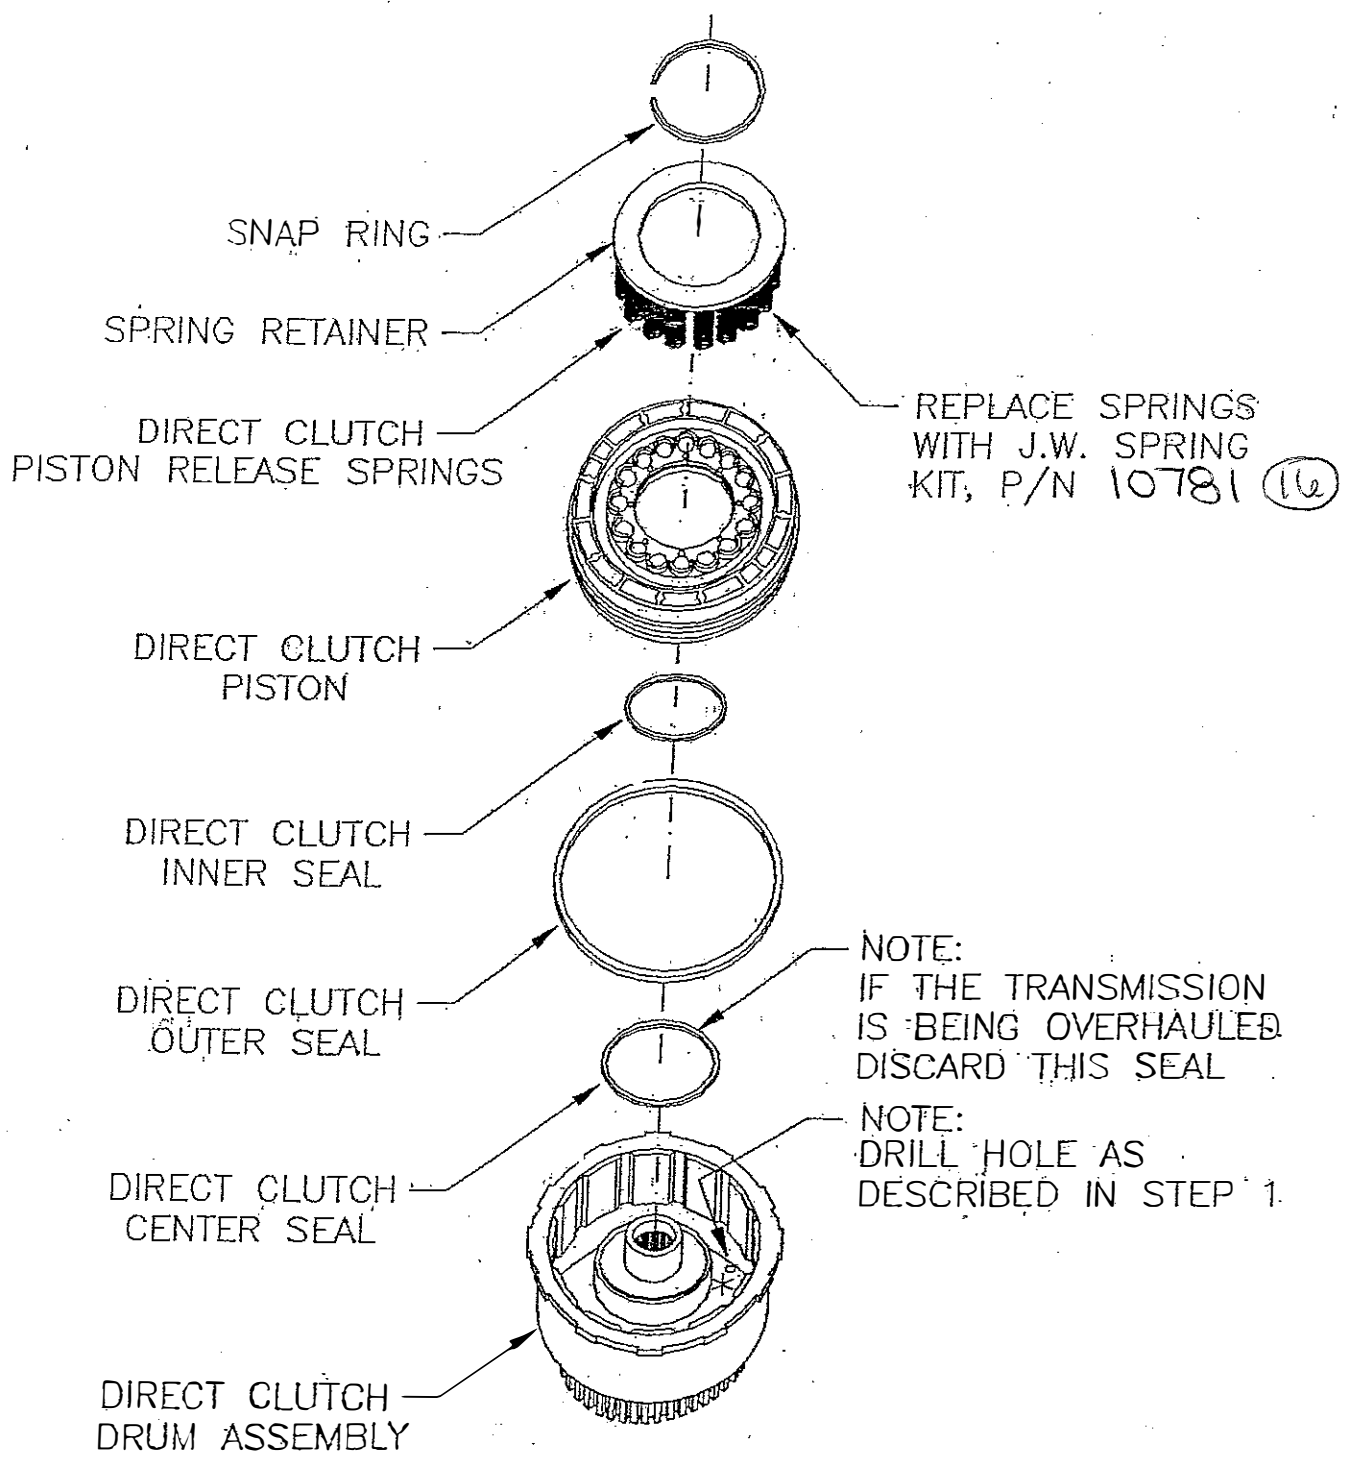

FIGURE 1
STEP 1: Disassemble the transmission enough to remove the direct drum. Refer to Fig. 1, Pg. 2. Disassemble the drum including the piston. Drill a 3/32 (.093) hole in the drum (area behind piston) from the inside to outside and locate it as close to the outside corner as possible. Do not drill at or above the corner. The hole may be drilled at a slight angle to allow more room while drilling. Deburr the hole on both sides, reassemble the drum. When reinstalling the piston in the drum, use the inner and outer seals only. DISCARD THE CENTER SEAL. Discard the original piston release springs and replace with the 16 springs provided with this kit. Set the clutch pack clearance to .070". Remove and discard the intermediate (Front) band. Before assembling the transmission, J.W. Performance recommends replacing the oil seal rings with Teflon rings. Reinstall the direct drum and remaining parts except the front pump.